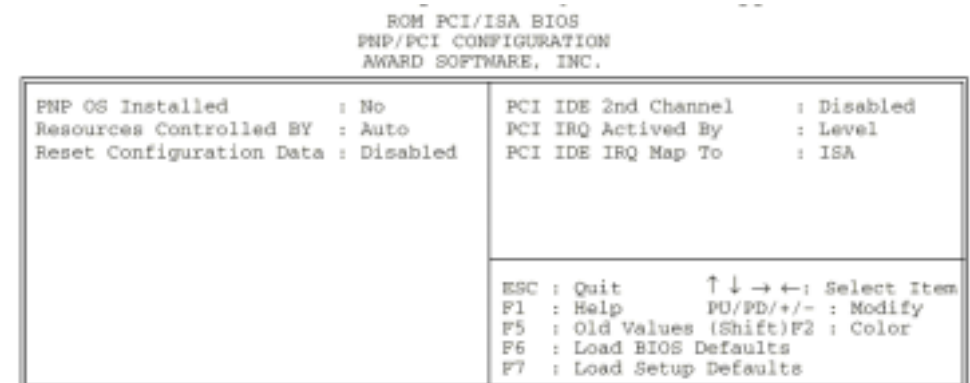

Figure 3-6. PnP/PCI Configuration Setup Screen
1. Choose "PNP/PCI CONFIGURATION SETUP" from the Main Menu and a screen depicted in Figure 3-6 will appear.
A short description of screen options (Figure 3-6) follows: